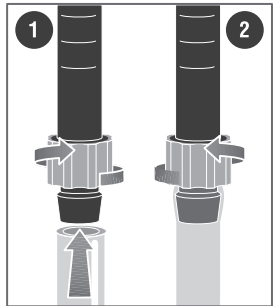

fig 5
- Cut the flexible tubes to the most convenient length, the cut must be at 90° to the tube wall and as neat as possible. Connect the tubes to the inlet and outlet systems, as straight as possible without kinks or twists, fixing them with the locking nuts following the procedure as shown in fig. 5.